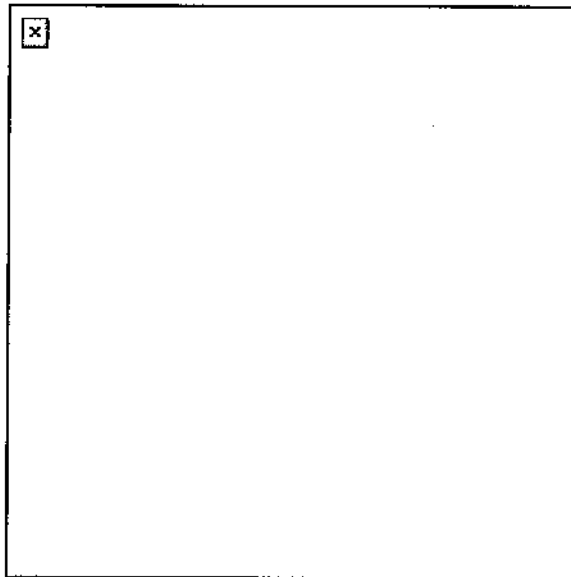

Figure 1. Pistol ready position, one-hand grip.
- d. Wrap your lower three fingers around the grip, putting equal pressure to the rear with all three fingers (Figure 1).